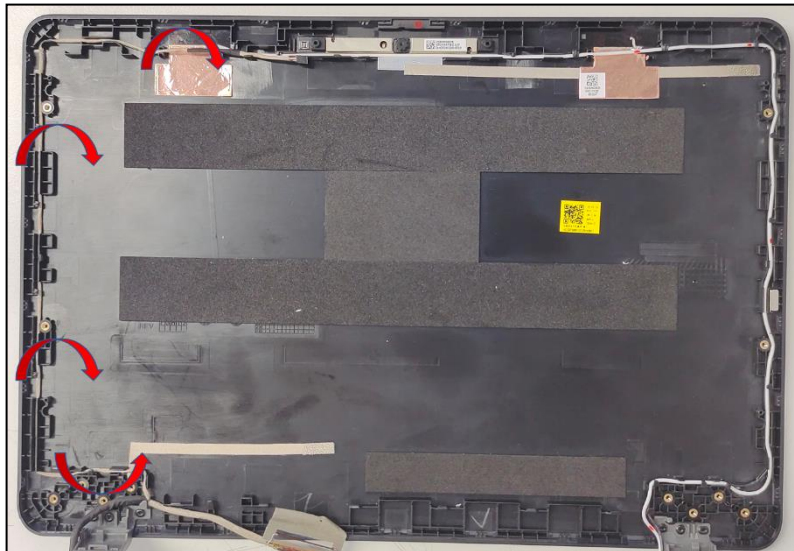

Figure 3-61. EDP Cable Remov
3. Lift the EDP cables from the cable guides on the LCD cover as shown in Figure 3-61.